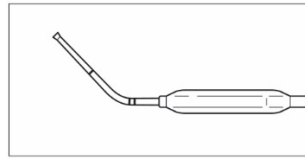

Figure 8: Eustachian Tube Bend
- **Eustachian Tubes:** When treating the Eustachian tubes, a bend of approximately 45° at the 2 cm mark (Figure 8) is recommended.